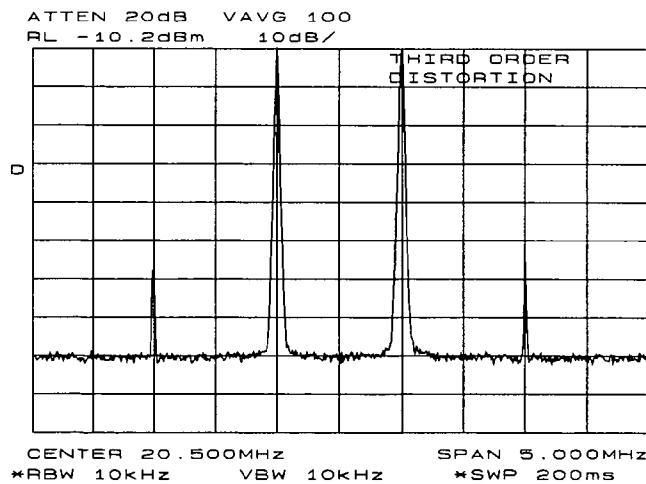

Figure 3-11. Display with Title
6. You may want to store the measurement information for future use. The save and recall functions allow you to store data for later viewing. The screen title function allows you to create a title on the screen and a label for the recall menu. To create a title, press **DISPLAY** and then **SCREEN TITLE**. Next, use the softkeys from the screen-title menu and the knob (to choose the letters) to create a title. The title appears in the upper-right corner of the graticule and can be up to two rows of 16 characters each (see Figure 3-11). Press the softkey **TITLE DONE** when the title is complete.